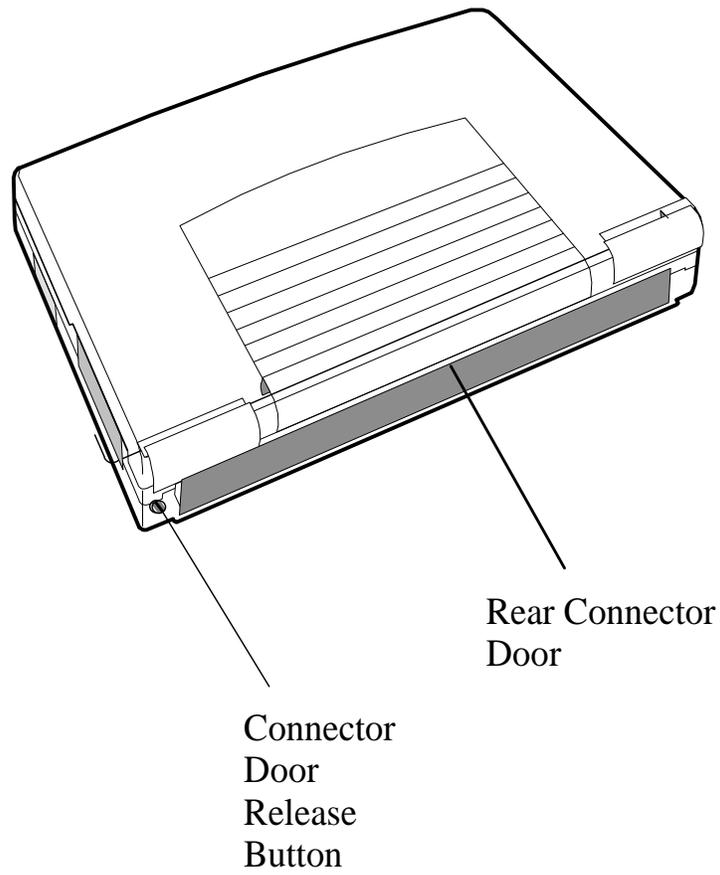

Figure 6-6 Removing\Replacing the Rear Connector Door
1. Press the Rear Door Access Button (Figure 6-6) and open the rear connector door.